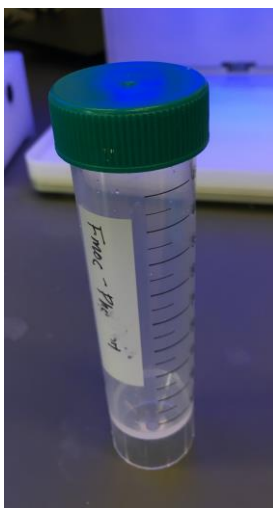

Figure 15: Labcon branded 50 mL tube. Several types are available within the lab: skirted with standard caps, and unskirted with gasket caps or standard caps.
**The synthesiser will only accept Labcon branded 50 mL tubes (Figure 15), others do not seal and cause will cause the instrument to fail pressure tests.**